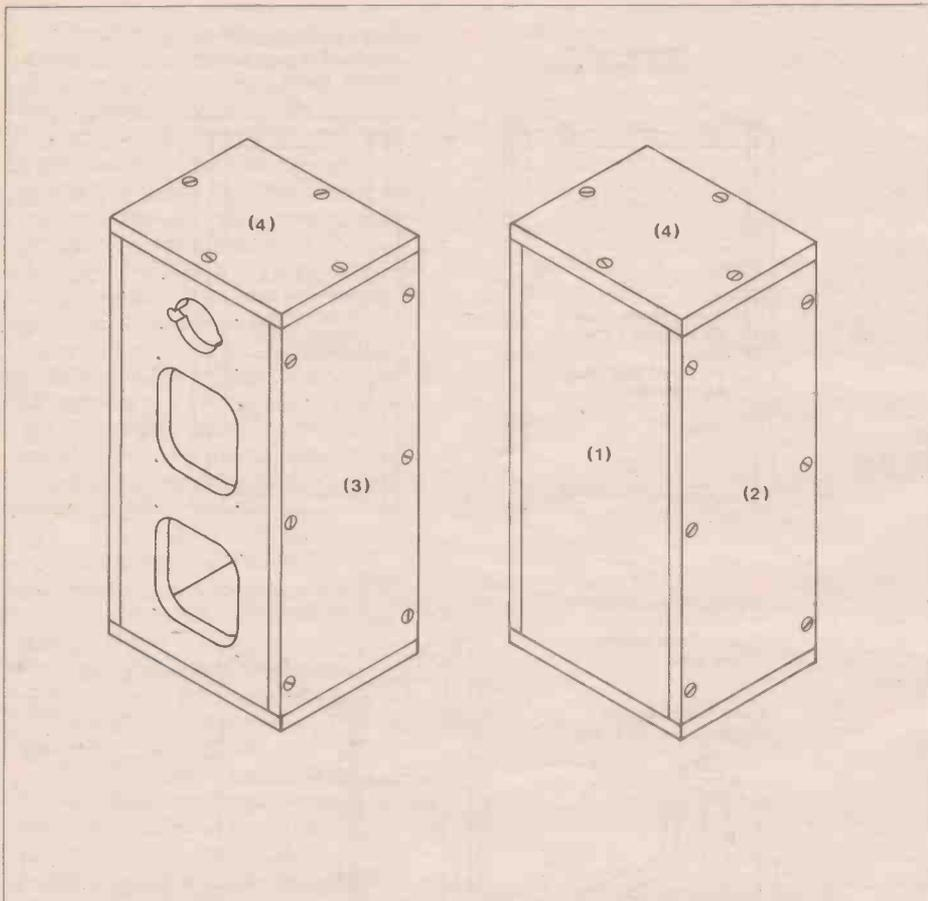

Figure 5. Completed cabinet.
Fit the back panel (1) in place and insert 3 x 38mm screws in each side panel, but DO NOT apply glue as the back panel will be removed later. Drill four screw clearance holes in each end panel (4) & (5), 7mm in from the edges and countersink as before (see Figure 5). Apply wood glue to the top edge of side panels (2) & (3) and top edge of the baffle board only, place panel (4) in position and insert the 4 X 38mm screws. Depending on panel thickness used, the top front screw may break through into the tweeter mounting hole, in the baffle. In this position only, use a shorter screw or cut/file the screw down after insertion. Apply glue to the side panel and baffle - bottom edges and fit panel (5) using 4 x 38mm screws. Remove the six back screws and back panel (1) before the glue dries. Wipe away any excess glue that may have been squeezed out from the joints and fit the two remaining horizontals (6) & (7), again using glue and nails. Drill a hole in the back panel, of a size suitable to take the cable used for connecting to an amplifier, leave the cabinet assembly for the glue to dry and proceed with the crossover module modifications.